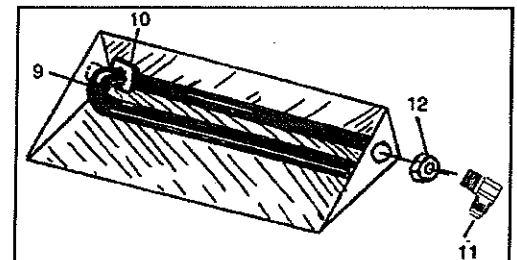

Figure 6 - Burner bar connection
- Secure the intake end of the Dual burner bar (Part #9) to the burner pan (Part #8) through the knockout hole selected (right or left hand) with the 3/8" brass orifice elbow (Part #11) and 3/8" locknut previously assembled in Step B (See Figure 6).